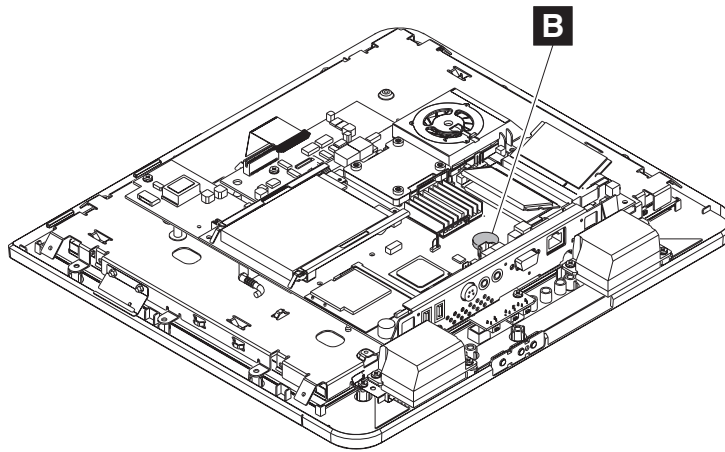

Figure 20. View of battery and heatsink
2. Locate the battery on the main planar assembly (**B** in Figure 20).